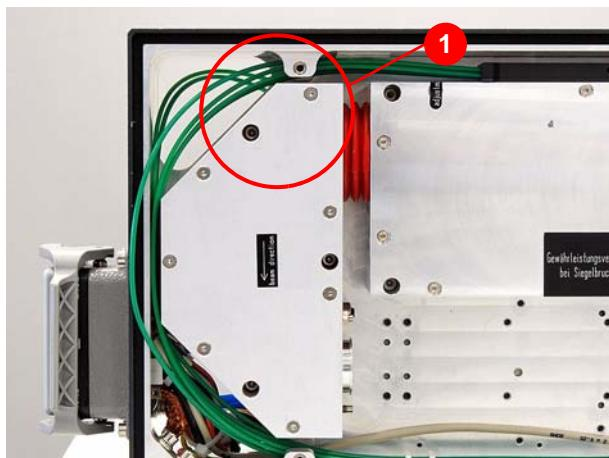

Figure 7.101 Inserting the glass fiber
12. Push the diode connection of the glass fiber (1) (Figure 7.100) through the passage from the resonator side of the laser head to the diode side (1) (Figure 7.101).